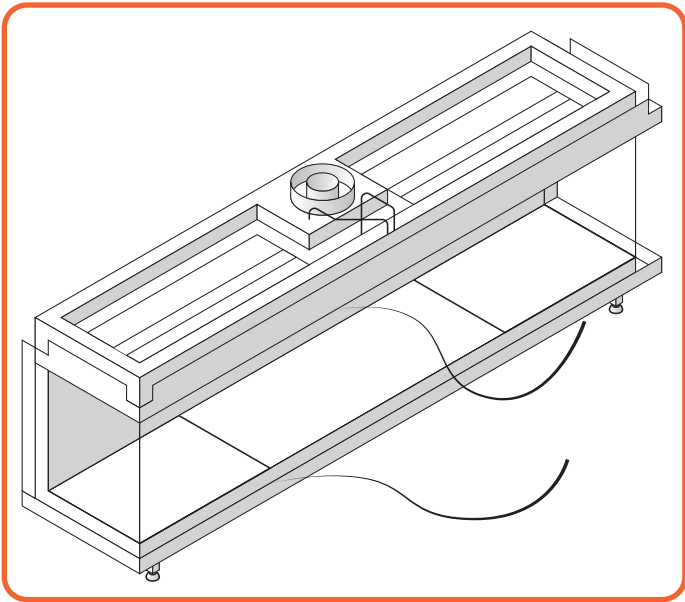

Figure 10.3 - Remove Glass ropes
- Remove the ropes holding the glass (See **Figure 10.3**)